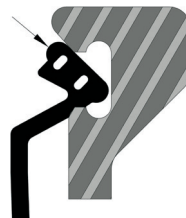

Figure 2
4. Push the bottom lug into the channel and then use a bent bar (Make sure that the bar is dull to prevent puncturing of the seal) to force the top lug into the top of the channel. (**See Figure 2**)